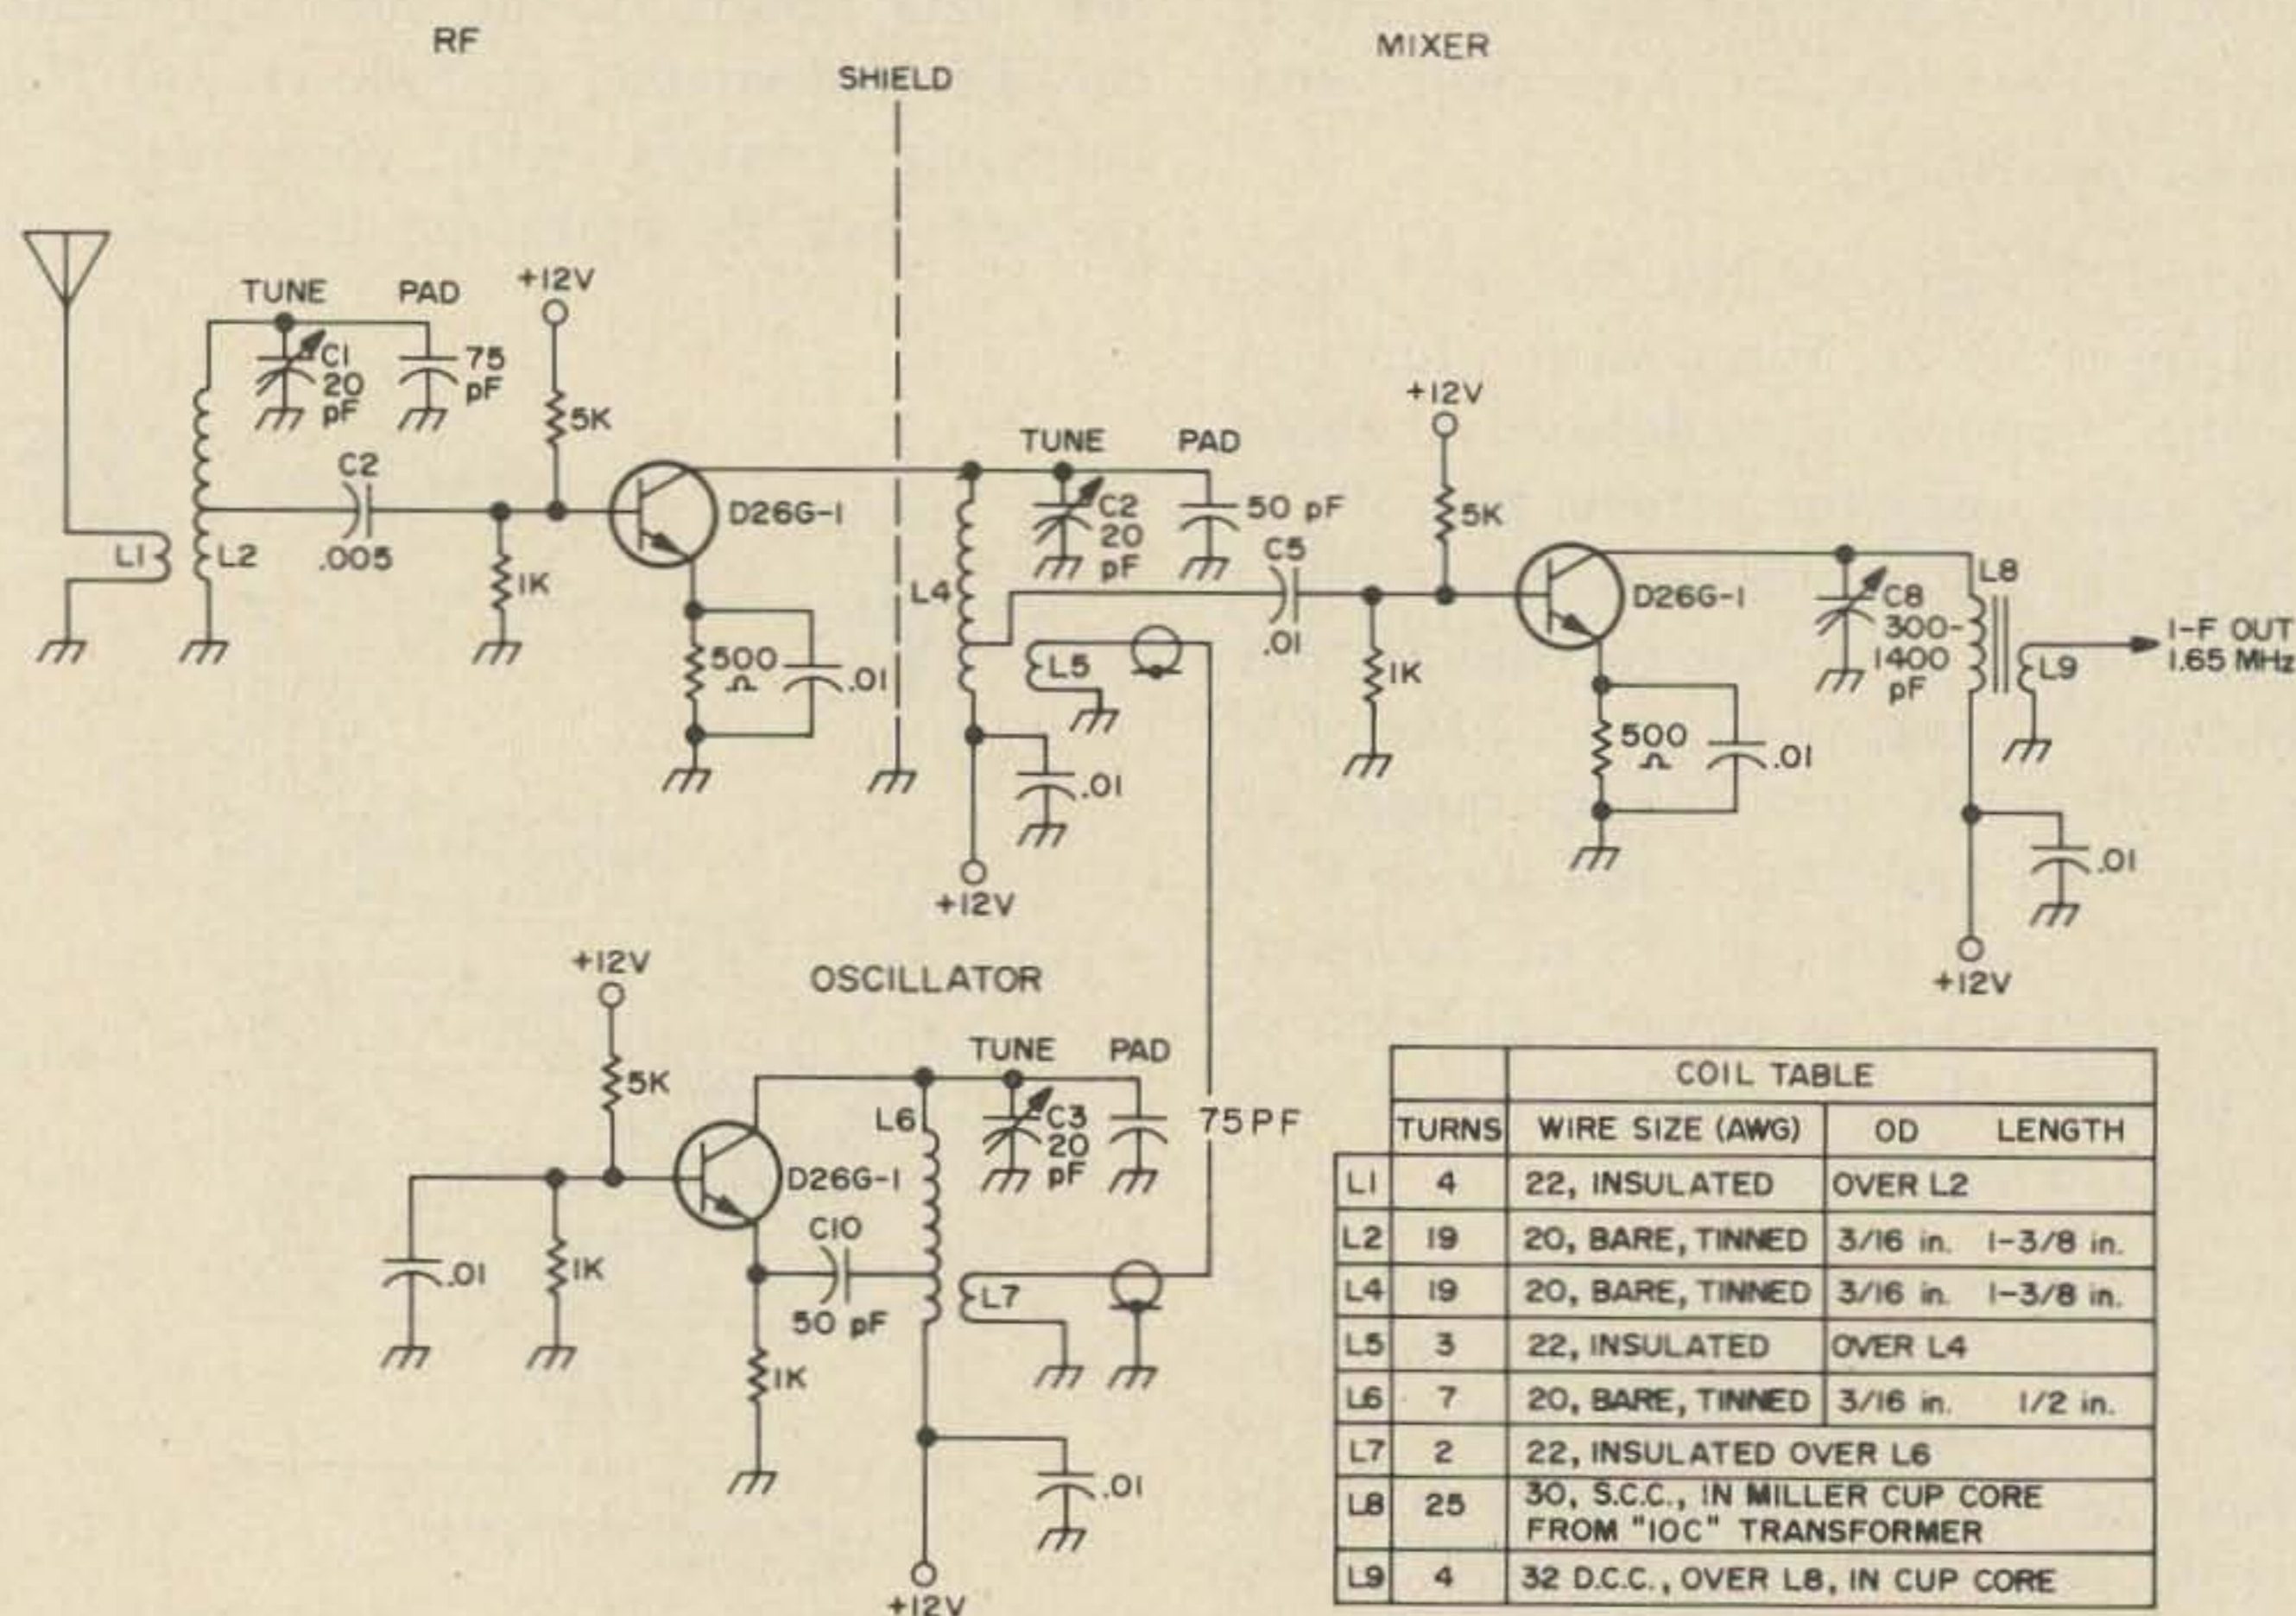

Fig. 3. Complete schematic for six meter front end using microtransistors (GE D26G-1).
Various values were tried for C10, of Fig. 3, the emitter feedback capacitor, and from 1000 pF down to near 40 the power increased and then dropped out below 25. A 50 pF was found to be best, and was installed at that point.
The final circuit is shown in Fig. 3, and the breadboard test layout in Fig. 4.
Points needing improvement were as follows, referring to Fig. 3. The oscillator was close to the frequencies needed, but proved to be undercoupled to the mixer base circuit. The mixer was undercoupled to the rf collector coil L4 with C5 being too small, and its emitter resistor was too large and L4 was too small, needing almost 100 pF to hit 50 MHz.
Referring again to Fig. 3, the collector output coil tuned to 1.65 MHz by C8 is a more or less standard coil and worked right away. Miller 9054 coils will do all right also at this point.
**Table 2. Capacity to rf base (C2 of Fig. 3).**
**Table 3. RF base tap using 19 turn coil as L2 in Fig. 3.**
**Table 4. Number of turns in antenna link coil L1 of Fig. 3.**
The rf collector tap (see Fig. 3) was found to be best at the high end of L4, due no doubt to the relatively low impedance resulting from the high parallel capacity C4A and C4B. The rf base capacity was found to be best at a high value, the same as the mixer. Table 2 shows the trend.